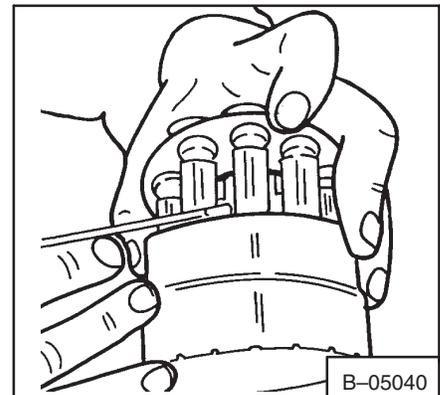

Fig. 3-120 Checking Pistons
- Check each piston in its cylinder (Fig. 3-120). The piston must move easily in the cylinder bore. If the piston does not move easily clean the pistons and the bores and put oil on the pistons and try again.